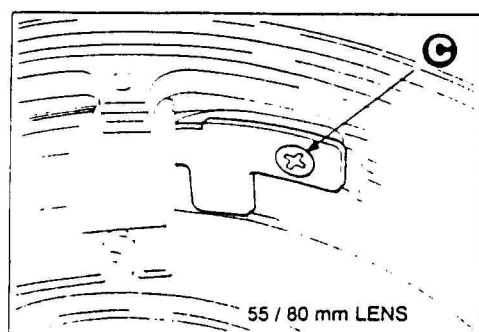

Fig. 3
Note : 2) If the set-screws (C) and (D) of the flexible pressure metal fitting are tightened imperfectly, the aperture lever would hit the set-screws (C) and (D), and the lens would be stopped down. Therefore, these set-screws must be tightened firmly. (See Figs. 3 and 4.)